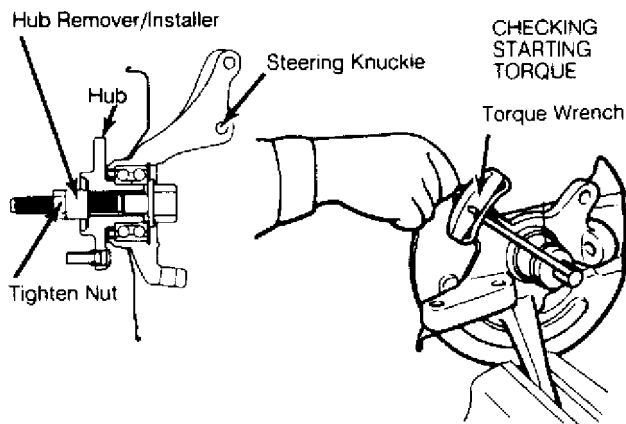

Fig. 7: Installing Hub & Checking Bearing Starting Torque
4) Install inner bearing in steering knuckle. Using Hub Remover/Installer (09517-21500 for Precis and MB990998 for all others), mount hub on steering knuckle. See Fig. 7. Tighten drive axle nut to 144-188 ft. lbs. (195-255 N.m).
5) Rotate hub to seat bearing. Using an INCH-pound torque wrench, measure hub starting torque. Starting torque should be 11 INCH lbs. (1.2 N.m) or less. See Fig. 7. Check axial play. See WHEEL BEARING AXIAL PLAY SPECIFICATIONS table under ADJUSTMENTS & INSPECTION.
3) Using Hub Remover/Installer (MB990998), install hub on steering knuckle. Tighten nut to 144-188 ft. lbs. (195-255 N.m). Rotate hub to seat bearing. Using an INCH-pound torque wrench, measure bearing starting torque. See Fig. 7.